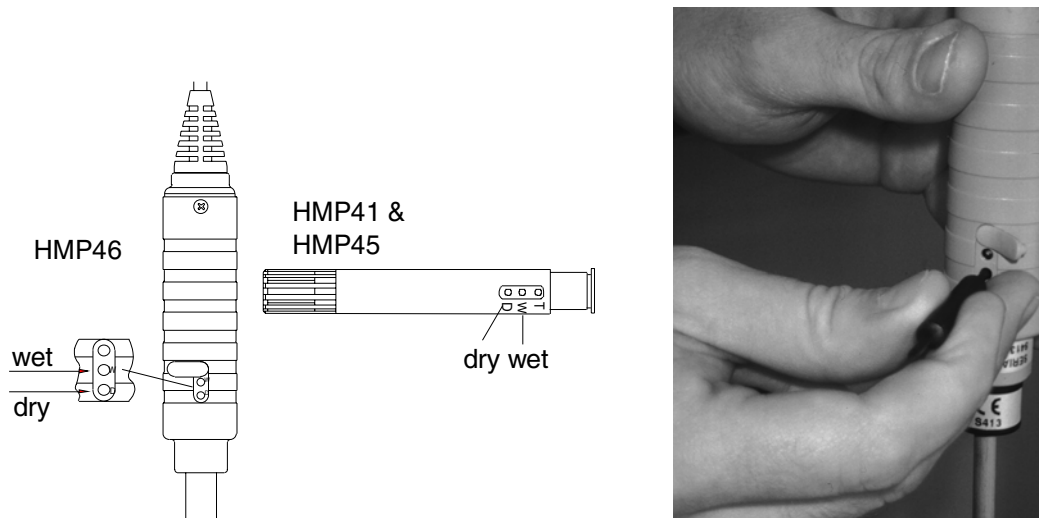

Figure 5.1.1 Location of trimmer potentiometers
Humidity calibration of the probes is preferably done by adjusting the trimmer potentiometers. The potentiometers are located under a protective plug. The potentiometer marked T (temperature) is for factory use only; DO NOT make any adjustments. To make sure that this potentiometer is not accidentally touched when adjusting the other two, turn the plastic plug aside without removing it completely (see Figure 5.1.1).
- Wait until the humidity reading stabilizes (approx. 30 minutes). Check the temperature and read the closest humidity value in the calibration table. Adjust the dry end reading with the potentiometer D (dry) in the probe body to correspond to the value given in the calibration table; use a suitable trimming screw wrench (see Figure 5.1.1).